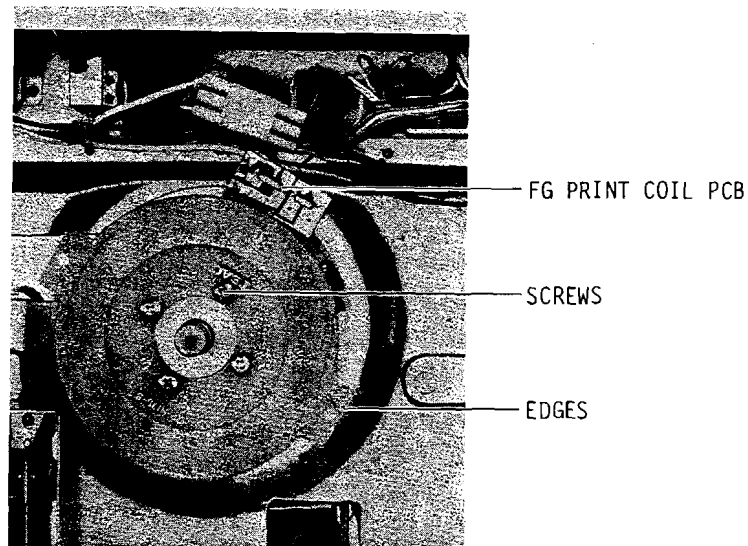
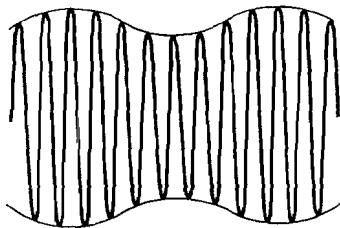
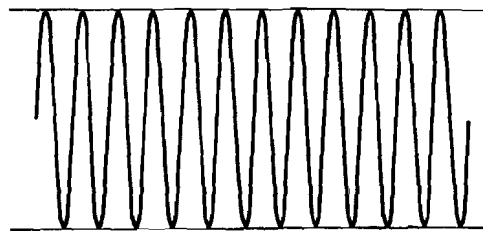

Fig. 8-8
Fig. 8-9
Fig. 8-10
After completing this procedure, to allow easy movement of the FG Print Coil PCB on the Capstan Motor Assembly, the PCB's four mounting screws are loosened with a screwdriver inserted through the two holes in the wheel, as shown in Fig. 8-8 (Fig. 8-8 shows the wheel removed).
Then, grasp the edge of the FG coil of Fig. 8-8 and carefully move the PCB until the waveform at point (A) shows a minimum of AM components, as shown in Fig. 8-10.
The waveform will be as shown in Fig. 8-9 when there is an excess of AM components and there is a tendency to improved wow and flutter with lower AM. Upon completing the above adjustments, the FG Print Coil PCB is secured by tightening the four mounting screws with a screwdriver inserted through the two holes in the wheel, as shown in Fig. 8-8 (Fig. 8-8 shows the wheel removed).